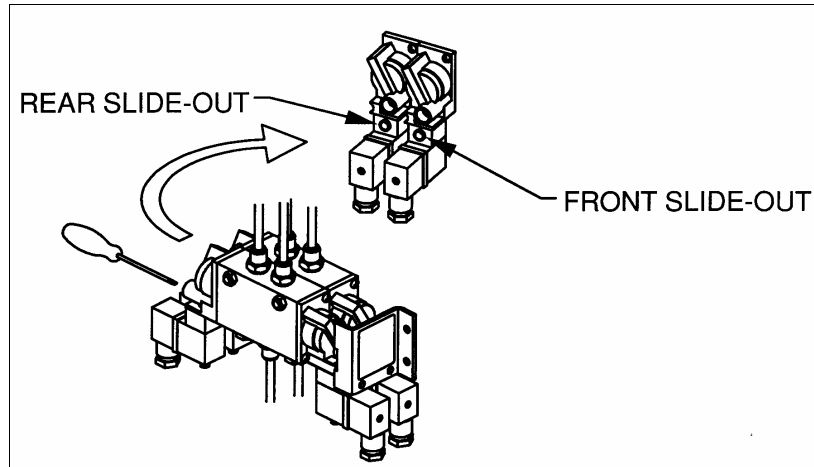

FIGURE 1
2. Identify the proper pneumatic valve controlling the locking pins of the problem slide-out (refer to figure 1).